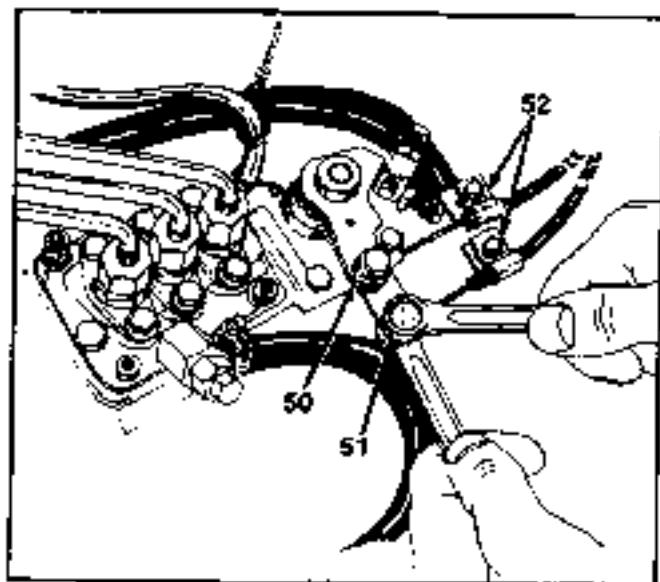

FIGURE 26.
29. Remove the engine stop lever cable and engine speed control lever cable from the levers. Remove the cable hold-down clips. See figure 26.